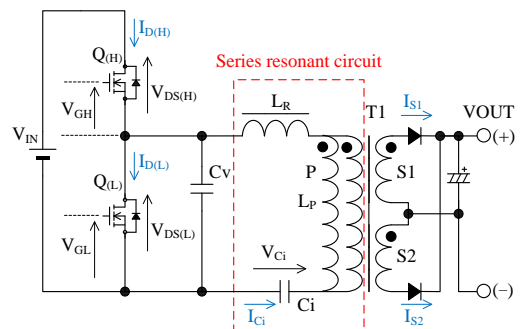
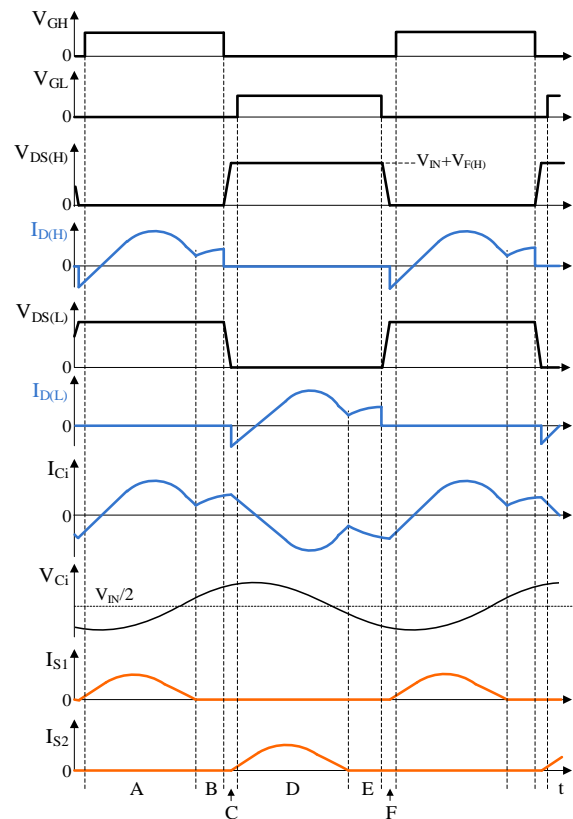

Figure 9-3. Current Resonant Power Supply Circuit
Figure 9-4. The Basic Operational Waveforms of Current Resonant Power Supply
Figure 9-3 shows the circuit of a current resonant power supply. The basic configuration of the current resonant power supply is a half-bridge converter. The switching devices,  $Q_{(H)}$  and  $Q_{(L)}$ , are connected in series with  $V_{IN}$ . The series resonant circuit and the voltage resonant capacitor,  $C_v$ , are connected in parallel with  $Q_{(L)}$ . The series resonant circuit is consisted of the following components: the resonant inductor,  $L_R$ ; the primary winding,  $P$ , of a transformer,  $T_1$ ; and the current resonant capacitor,  $C_i$ . The coupling between the primary and secondary windings of  $T_1$  is designed to be poor so that the leakage inductance increases. This leakage inductance is used for  $L_R$ . This results in a downsized of the series resonant circuit. The dotted mark with  $T_1$  describes the winding polarity, the secondary windings,  $S_1$  and  $S_2$ , are connected so that the polarities are set to the same position as shown in Figure 9-3. In addition, the winding numbers of each other should be equal. From Equation (1), the impedance of a current resonant power supply is calculated by Equation (5). From Equation (4), the resonant frequency,  $f_0$ , is calculated by Equation (6).
Figure 9-4 describes the basic operational waveforms of current resonant power supply (see Figure 9-3 about the symbol in Figure 9-4). For the description of current resonant waveforms in normal operation, the operation is separated into a period A to F. In the following description: